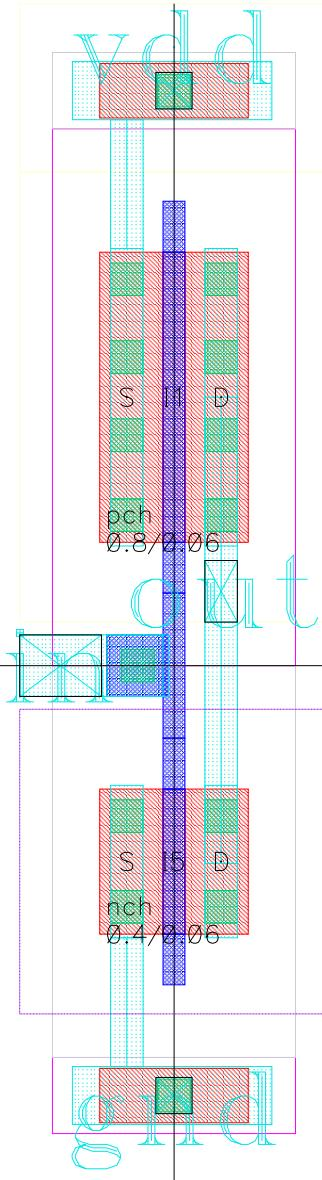

Figure 4.1: Example layout of a logic inverter
3. Figure 4.1 shows one possible layout of a CMOS inverter. Try to reproduce this layout. The PMOS transistor has a W/L of $0.8\mu\text{m} / 0.06\mu\text{m}$, while the NMOS has a W/L of $0.4\mu\text{m} / 0.06\mu\text{m}$.